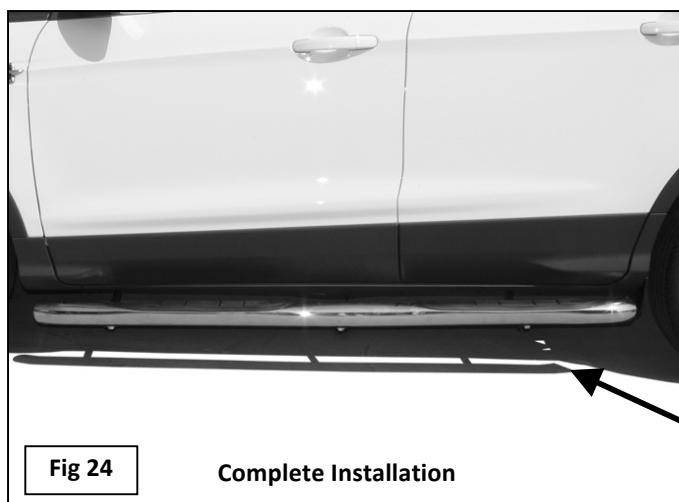

Fig 24
10. Carefully unwrap and select the driver Sidebar. Place the Sidebar in position on top of the (3) Brackets. **NOTE**: It may be necessary to loosen the Brackets slightly to line up the cradles with the threaded inserts in the Sidebars. Bolt the Sidebar to the Brackets with (6) 8mm x 30mm Hex Bolts, (6) 8mm Lock Washers and (6) 8mm flat washers, (**Fig. 24**).